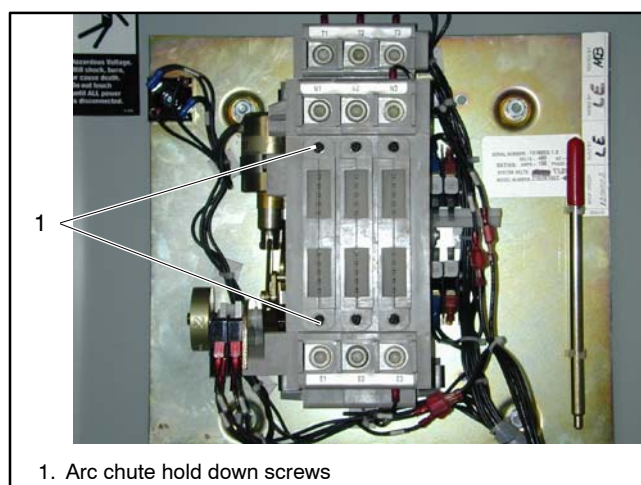

Figure 7-37 Arc Chute Screws
5. Remove the arc chute hold down screws. See Figure 7-37.